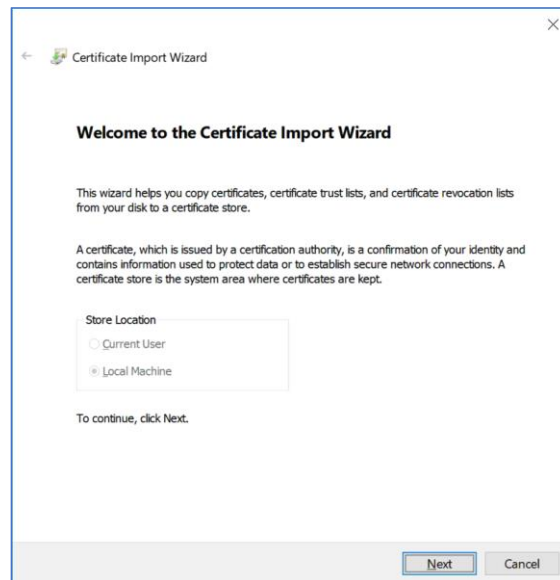

Figure 177: Windows Certificate Import Wizard
15. Click on the Import... button to start the Certificate Import Wizard. The Wizard is shown in Figure 177.